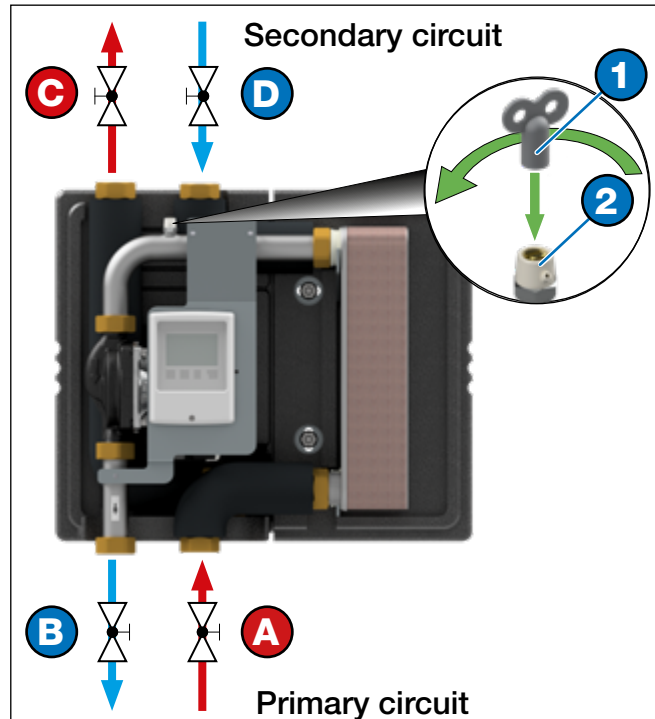

Fig. 8-4: Domestic fresh water unit connection and venting procedure
- Observe Fig. 8-4 for steps 8 to 10.
- The domestic fresh water unit is fully assembled. Observe Fig. 8-4 for the following steps.
- 2. Open the vent valve (item 2) by turning the vent key (item 1) anticlockwise and keep it open until air is no longer escaping.
3. Close all the shut-off valves Fig. 8-4 on page 12).
Relieve the pressure in the domestic fresh water unit (for example, by opening the vent screws, see Fig. 8-4 on page 12).